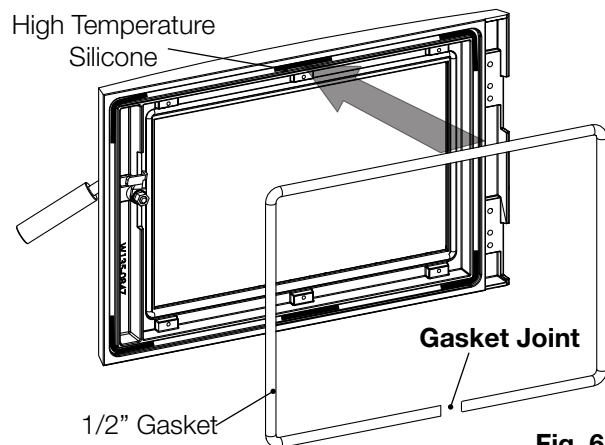

Fig. 6-4
- Apply **high temperature silicone** (not supplied) in the gasket groove as illustrated (**Fig. 6-4**).
- Cut the 1/2" gasket (supplied) to size and place on top of the silicone. Press the gasket down firmly to ensure it stays in place. **Ensure the gasket joint is at the bottom as illustrated (Fig. 6-4).**